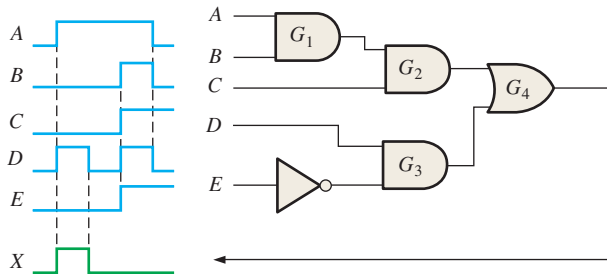

FIGURE 5-69
47. The output waveform in Figure 5-69 is incorrect for the inputs that are applied to the circuit. Assuming that one gate in the circuit has failed, with its output either an apparent constant HIGH or a constant LOW, determine the faulty gate and the type of failure (output open or shorted).